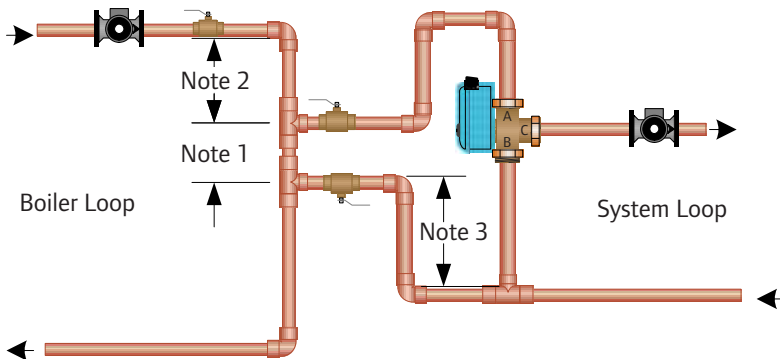

Figure 1: Three-way Mixing Valve Piping Requirements
1. Use primary/secondary piping to hydraulically isolate the boiler loop from the injection or system loop. There can be no more than 4 pipe diameters between the tees in the boiler loop (see **Note 1** in **Figure 1**).
2. There must be at least 6 pipe diameters of straight pipe on either side of the tees (see **Note 2** in **Figure 1**) to prevent the momentum of water in the boiler loop from pushing flow through the injection loop.
3. Ensure a minimum of 1 ft. drop on the return pipe of the injection loop to create a thermal trap and prevent unwanted heat transfer (see **Note 3** in **Figure 1**).